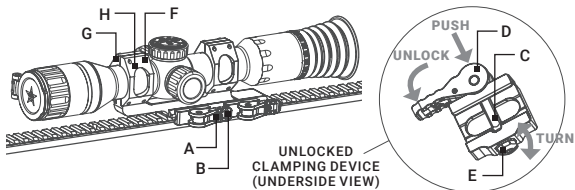

FIGURE 2-6. INSTALLATION WITH QUICK RELEASE MOUNT
The Spectrum 4K-Mini scope can be mounted on a Picatinny/Weaver rail using optional AGM quick release (QR) mount (Figure 2-6).
1. Unlock the clamping devices of the QR mount by pushing down on the lever holders (A) and unlocking the levers (B).
2. Install the mount on the Picatinny/ Weaver rail so that the stops (C) slide into the transverse slots on the rail.
3. Affix the mount to the rail by locking the levers (B).